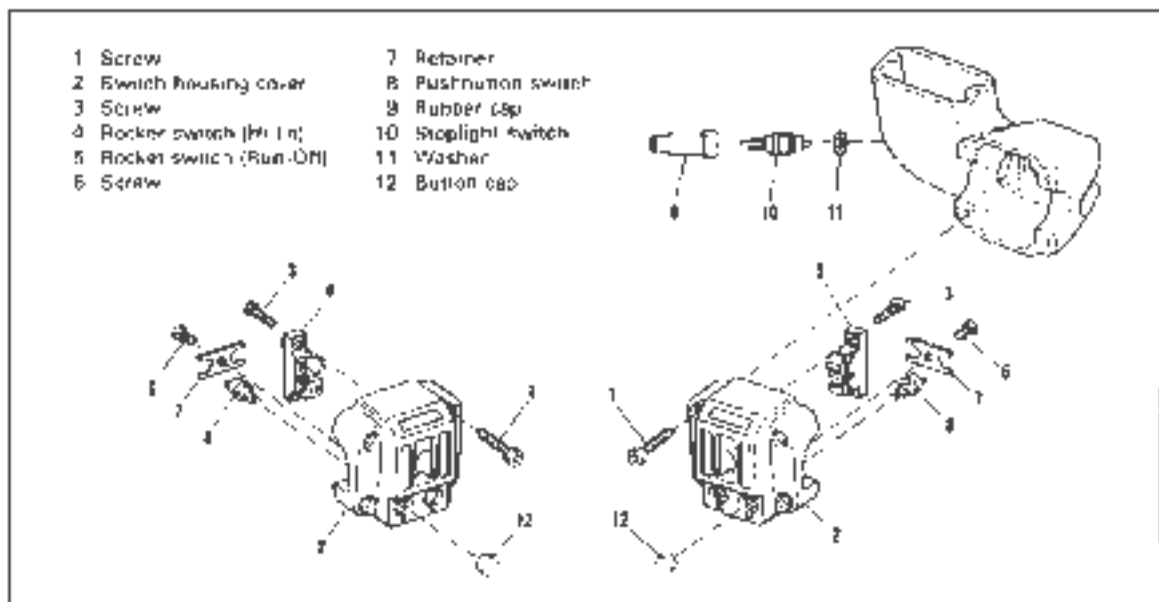

Figure 5-2B. Handlebar Switch Assemblies
The left handlebar switch assembly (Figure 5-2B) contains a rocker arm switch (handlamp, Hi LO beam) and two pushbutton switches (horn and left turn signal). The right handlebar switch assembly contains a rocker arm switch (RUN OFF) and two pushbutton switches (right turn signal). Individual rocker arm and pushbutton switches can be replaced if defective.
To replace individual switches, remove four screws (1, Figure 5-2B) and pull off cover (2) as shown. Remove screws (3) and rocker switch (4) and (5) or screws (6) retainer (7) and pushbutton switch (8) as needed. Reassembly is the reverse of disassembly.